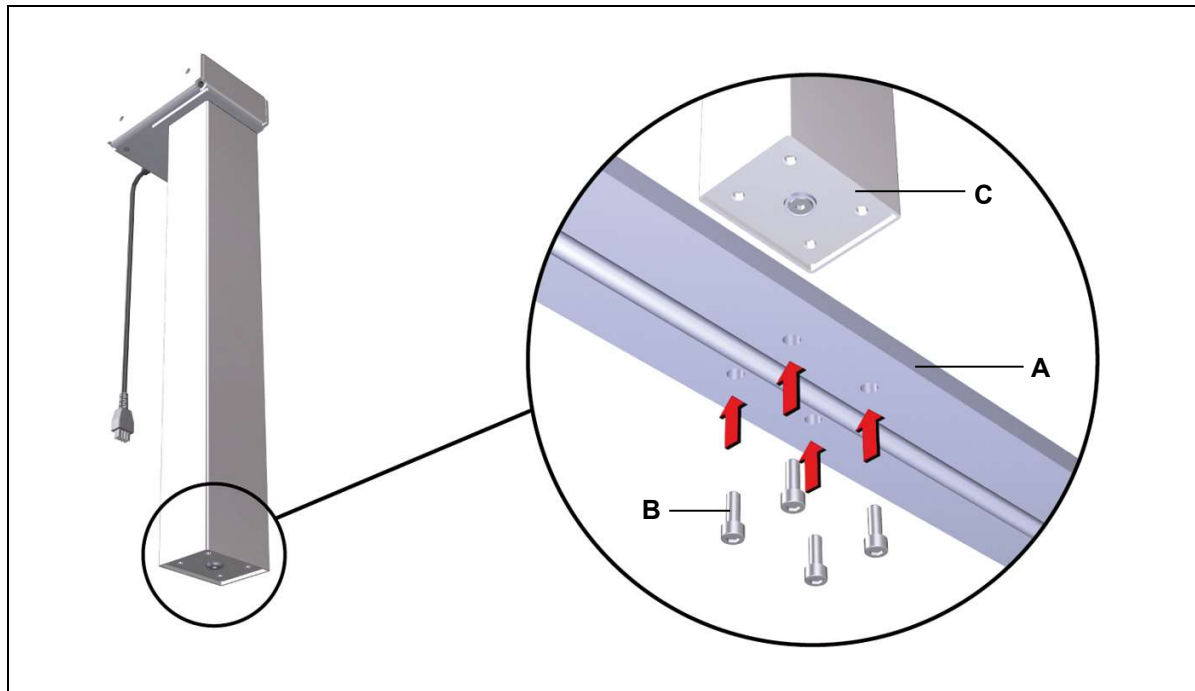

Figure 11 Example: Mounting the table base (version B)
- 1 Use four screws to attach the table base to the foot end of the DD11S/DD21S lifting columns, as shown in Figure 11 (maximum tightening torque is 10 Nm). The mounting dimensions are shown in Figure 10.